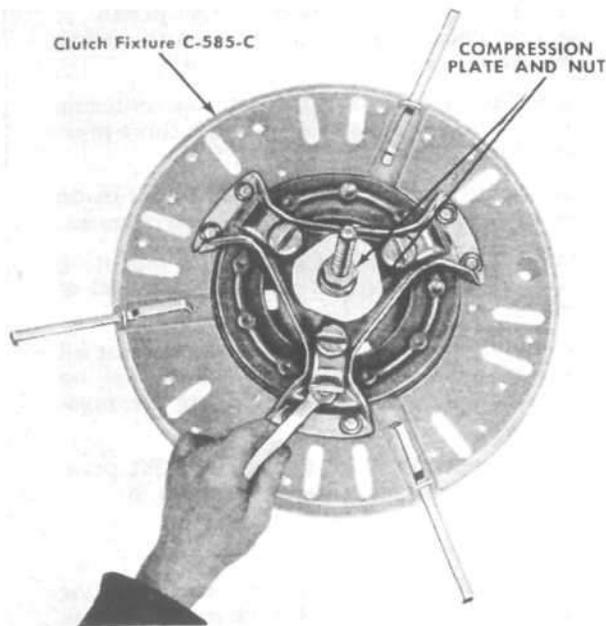

FIG. 176—DISASSEMBLING AUBURN CLUTCH
- b. Place fixture compression plate on centering screw so that it rests evenly on all three pressure plate levers (Fig. 176).